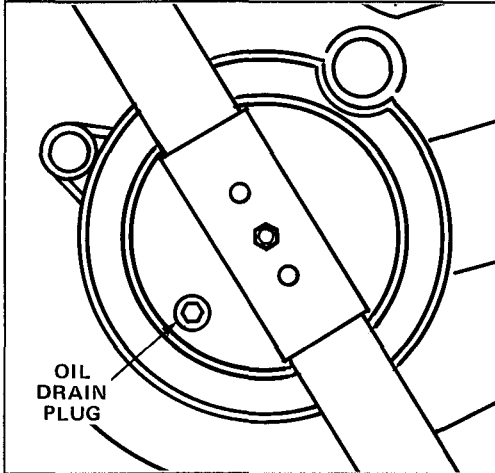

Figure 19
3. Tip mower on its right side. Remove drain plug from underside of mower using an adjustable wrench (Fig. 19). Place a drain pan under mower.